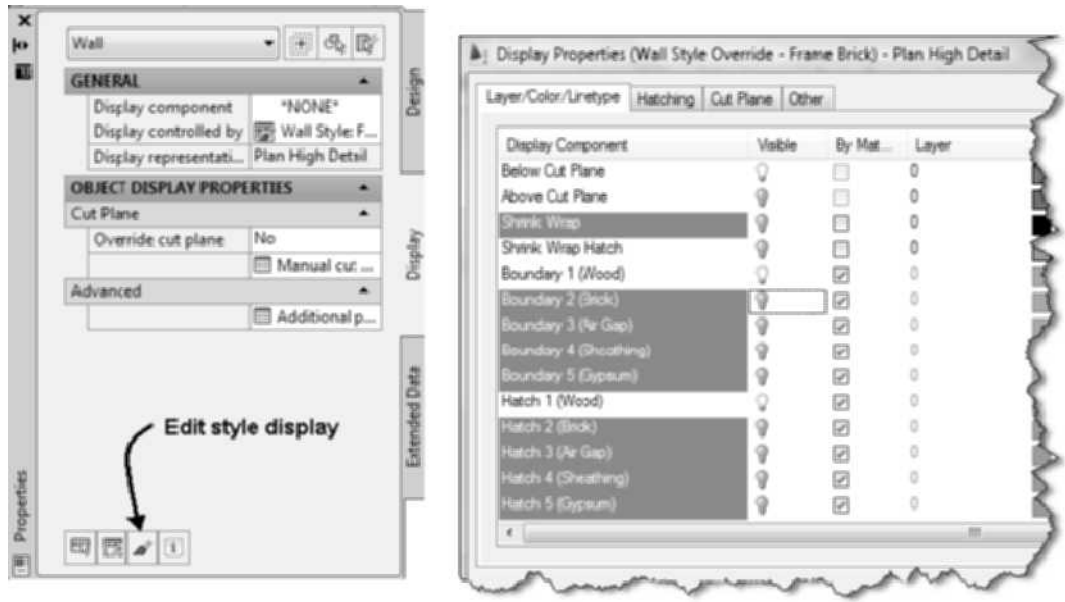

FIGURE 7.66 Editing display component visibility from the Display Properties tab of a wall style
6. Select the **Display** tab of the **Properties** palette. Choose the Edit Style Display button as shown in Figure 7.66. Select the Display Properties tab of the Wall Style Properties dialog. Choose the checkbox for Style Override of the Plan High Detail display representation to open the Display Properties (Wall Style Override—Frame Brick)—Plan High Detail.
7. Choose the Layer/Color/Linetype tab toggle off the light bulb of the following components as shown in Figure 7.66: Shrink Wrap, Boundary 2 (Brick), Hatch 2 (Brick), Boundary 3 (Air Gap), Hatch 3 (Air Gap), Boundary 4 (Sheathing), Hatch 4 (Sheathing), Boundary 5 (Gypsum), Hatch 5 (Gypsum).